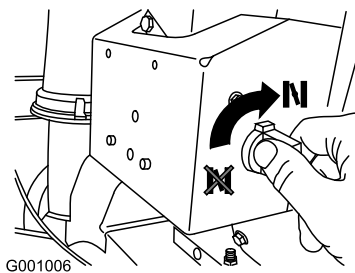

Figure 24
4. Rotate the choke to the On position (Figure 24).